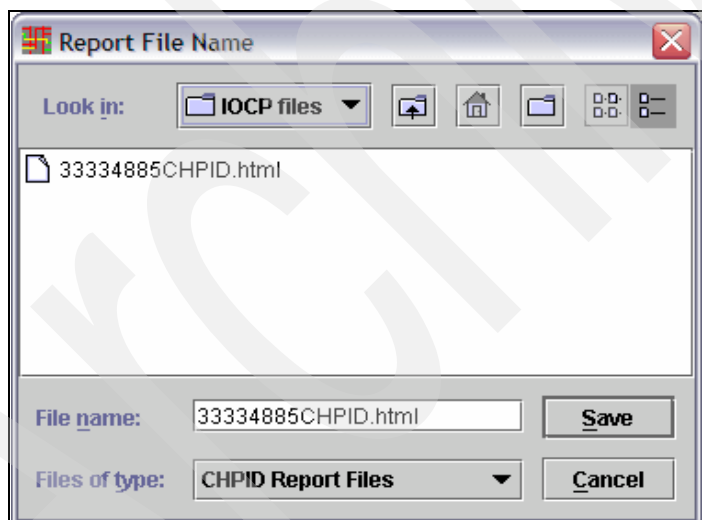

Figure 3-65 CMT - Report File Name
2. Enter the Report File Name (or accept the default name offered by CMT) and click **Save** (Figure 3-65).